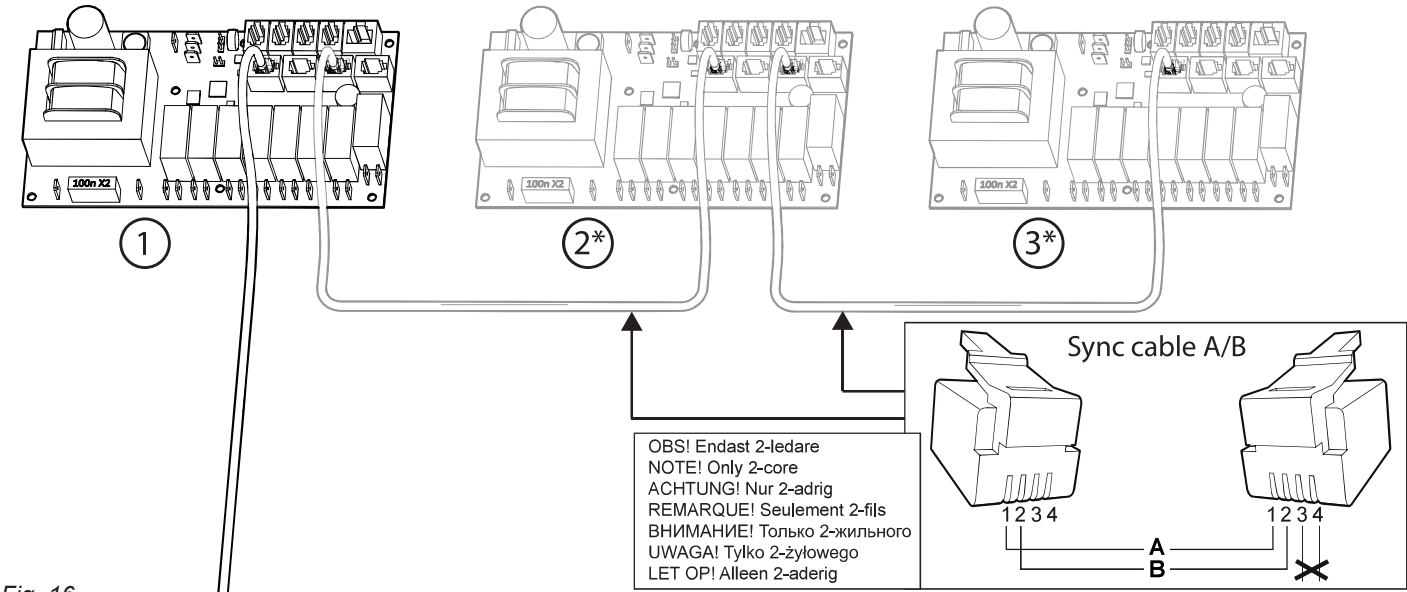
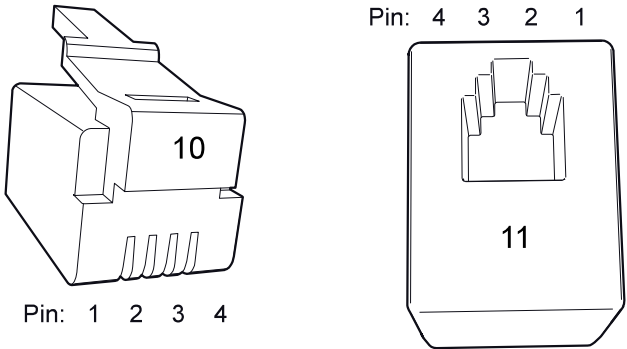

Fig. 16
Fig. 17
To connect the temperature sensor, etc., to the control panel with quick connectors, refer to the circuit board overview (Fig. 17)
The connections between the generators use a low power cable (2 core, RJ10 2P4C A/B) with an RJ10 connector, (Fig. 16.) Refer to the section "Modular connector description" (Fig. 17) for more information on the pin configuration.
If one steam generator needs servicing the others can remain in operation. One generator that is set as a secondary is disconnected by removing the cable from between the circuit boards. (Fig. 16)
2. Disconnect the cable that connects the control circuit boards (Fig. 16)